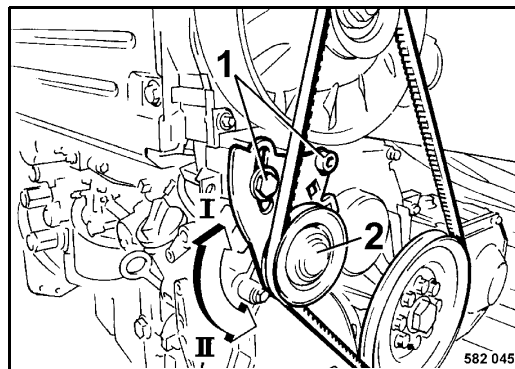

Fig. 153
- Slightly slacken the fastening screw 1 (Fig. 153).
- Press the idling pulley (2) in direction "I", until the correct V-belt tension is achieved.
- Tighten the fastening screws (1).